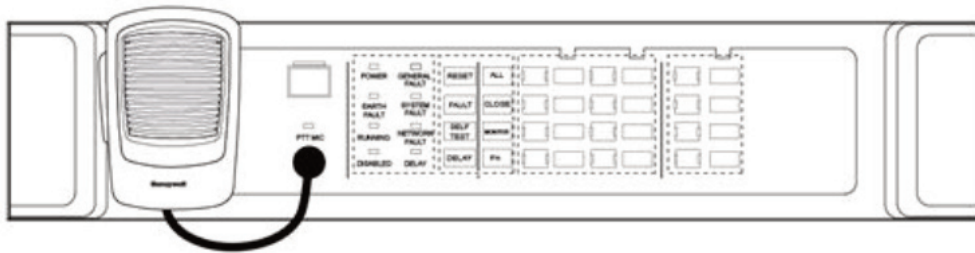

Figure 10 PTT Microphone Installation Diagram
1. Connect and hang the PTT microphone in place on the front panel of the ZS-2000M. An installed PTT microphone is shown in Figure 10.